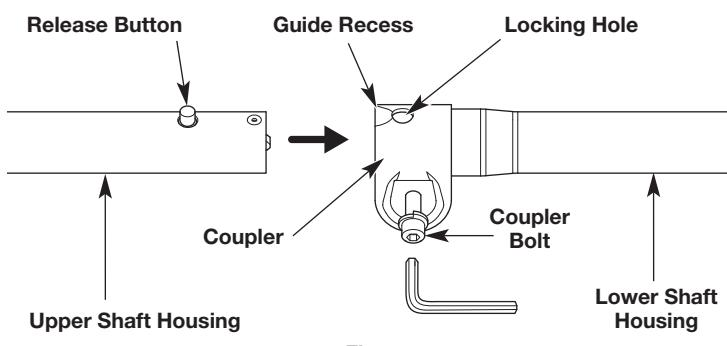

Fig. 4
2. Use a 3/16 in. Allen wrench to loosen the coupler bolt (Fig. 4).
3. While firmly holding the upper shaft, push it straight into the coupler until the release button snaps firmly into the locking hole (Fig. 4).
NOTE: Aligning the release button with the guide recess will help installation (Fig. 4).
4. Tighten the coupler bolt until the upper and lower shafts are firmly connected (Fig. 4).
CAUTION: Before operating the unit, make sure the release button is fully snapped into the locking hole (Fig. 4) and the coupler bolt is securely tightened.